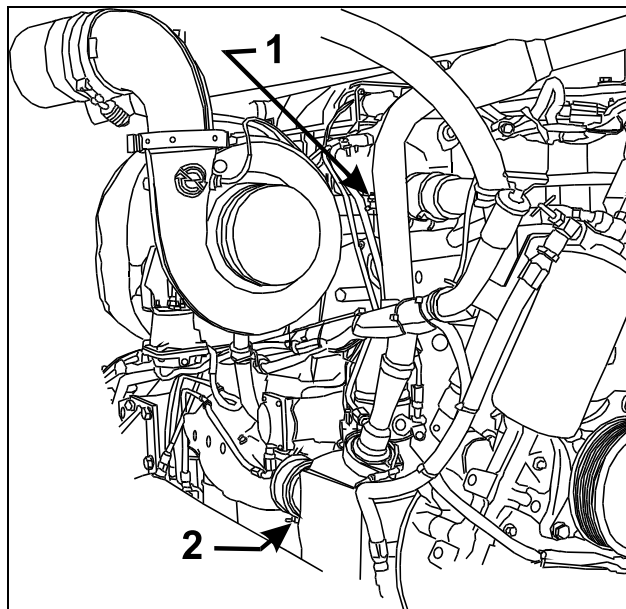

FIGURE 4: ENGINE COOLANT DRAIN COCKS
6. Open drain cock at bottom of thermostat housing to drain the coolant trapped above the thermostats (1, Fig. 4).
8. Open engine drain cock (2, Fig. 4).